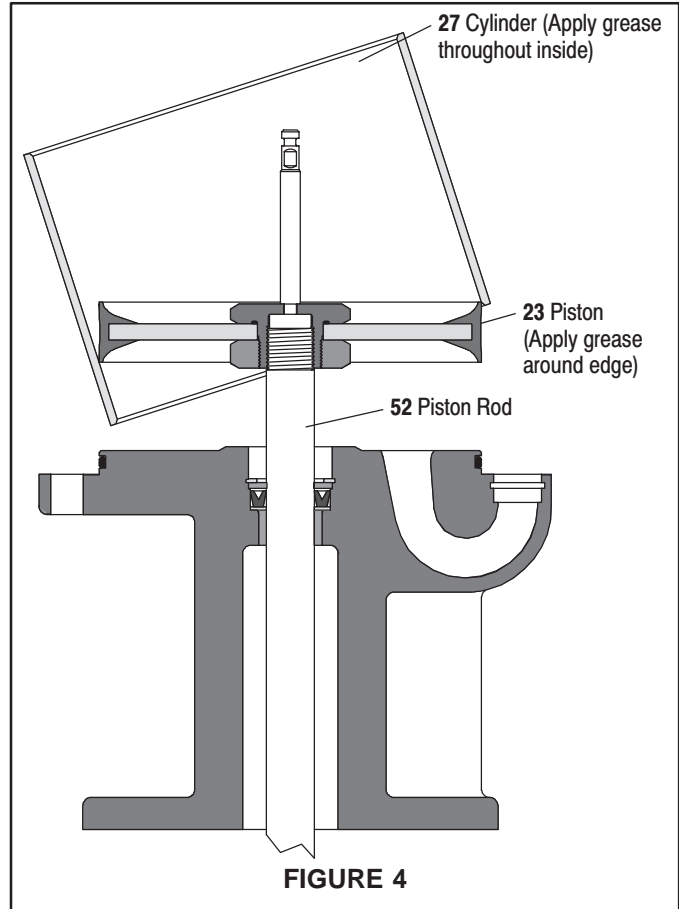

FIGURE 4
3. While holding the (26) valve rod below the threads with locking pliers, clean with solvent and apply Loctite 271 to the threads and attach the (40) extension rod, using the provided wrench flats.
4. Place the "machined shoulder" end of the (26) valve rod into the hole in the end of the (52) piston rod and assemble (52) piston rod to (22) adapter, tightening using a wrench on flats provided.
5. Thoroughly grease and install the (20) "O" ring in the (30) air motor base assembly.
6. Grease and place the (51) washer and (49) "U" cup into the (30) air motor base assembly. Place the (48) guide washer and (47) retaining ring in the (30) air motor base assembly.
7. Grease and install (15) "O" ring on the (43) lower gland.
8. Grease the bore in the (18) head assembly and insert the (43) lower gland into the bore of the (18) head assembly, using a twisting motion.
9. Align the screw holes in the (43) lower gland and (18) head assembly.
10. Secure the (43) lower gland to the (18) head assembly using four (21) machine screws.
11. Put the (52) piston rod thru the (49) "U" cup in the (30) air motor base assembly, being careful not to damage the "U" cup.
12. Thoroughly grease the inside of the (27) air cylinder.
13. Fill the area between the lips of (23) piston assembly with grease, then insert into the bottom of the (27) air cylinder (see figure 4).
14. Push the (23) piston assembly to the top of the (27) air cylinder.
15. Thoroughly grease and install the (45 and 20) "O" rings into the (18) head assembly.
16. Thoroughly grease the two (17) "O" rings and install one in the (30) air motor base assembly. Install the other in the (18) head assembly.
17. Press the (28) tube into the counterbored hole in the (30) air motor base assembly.
18. Push the (40) extension rod thru the (45) "O" ring in the base of the (18) head assembly.
19. Press the (18) head assembly down until the (27) air cylinder and (28) tube are seated in the (18) head assembly.
20. Insert the four (46) bolts down thru the holes in the flanges of the (18) head assembly and the (30) air motor base assembly.
21. Screw the four (50) nuts on the four (46) bolts. Alternately and evenly tighten the nuts.
22. Thoroughly grease and install the (19) "U" cup in the (42) piston adapter, with the lips of the (19) "U" cup down toward the thick flange on the (42) piston adapter.